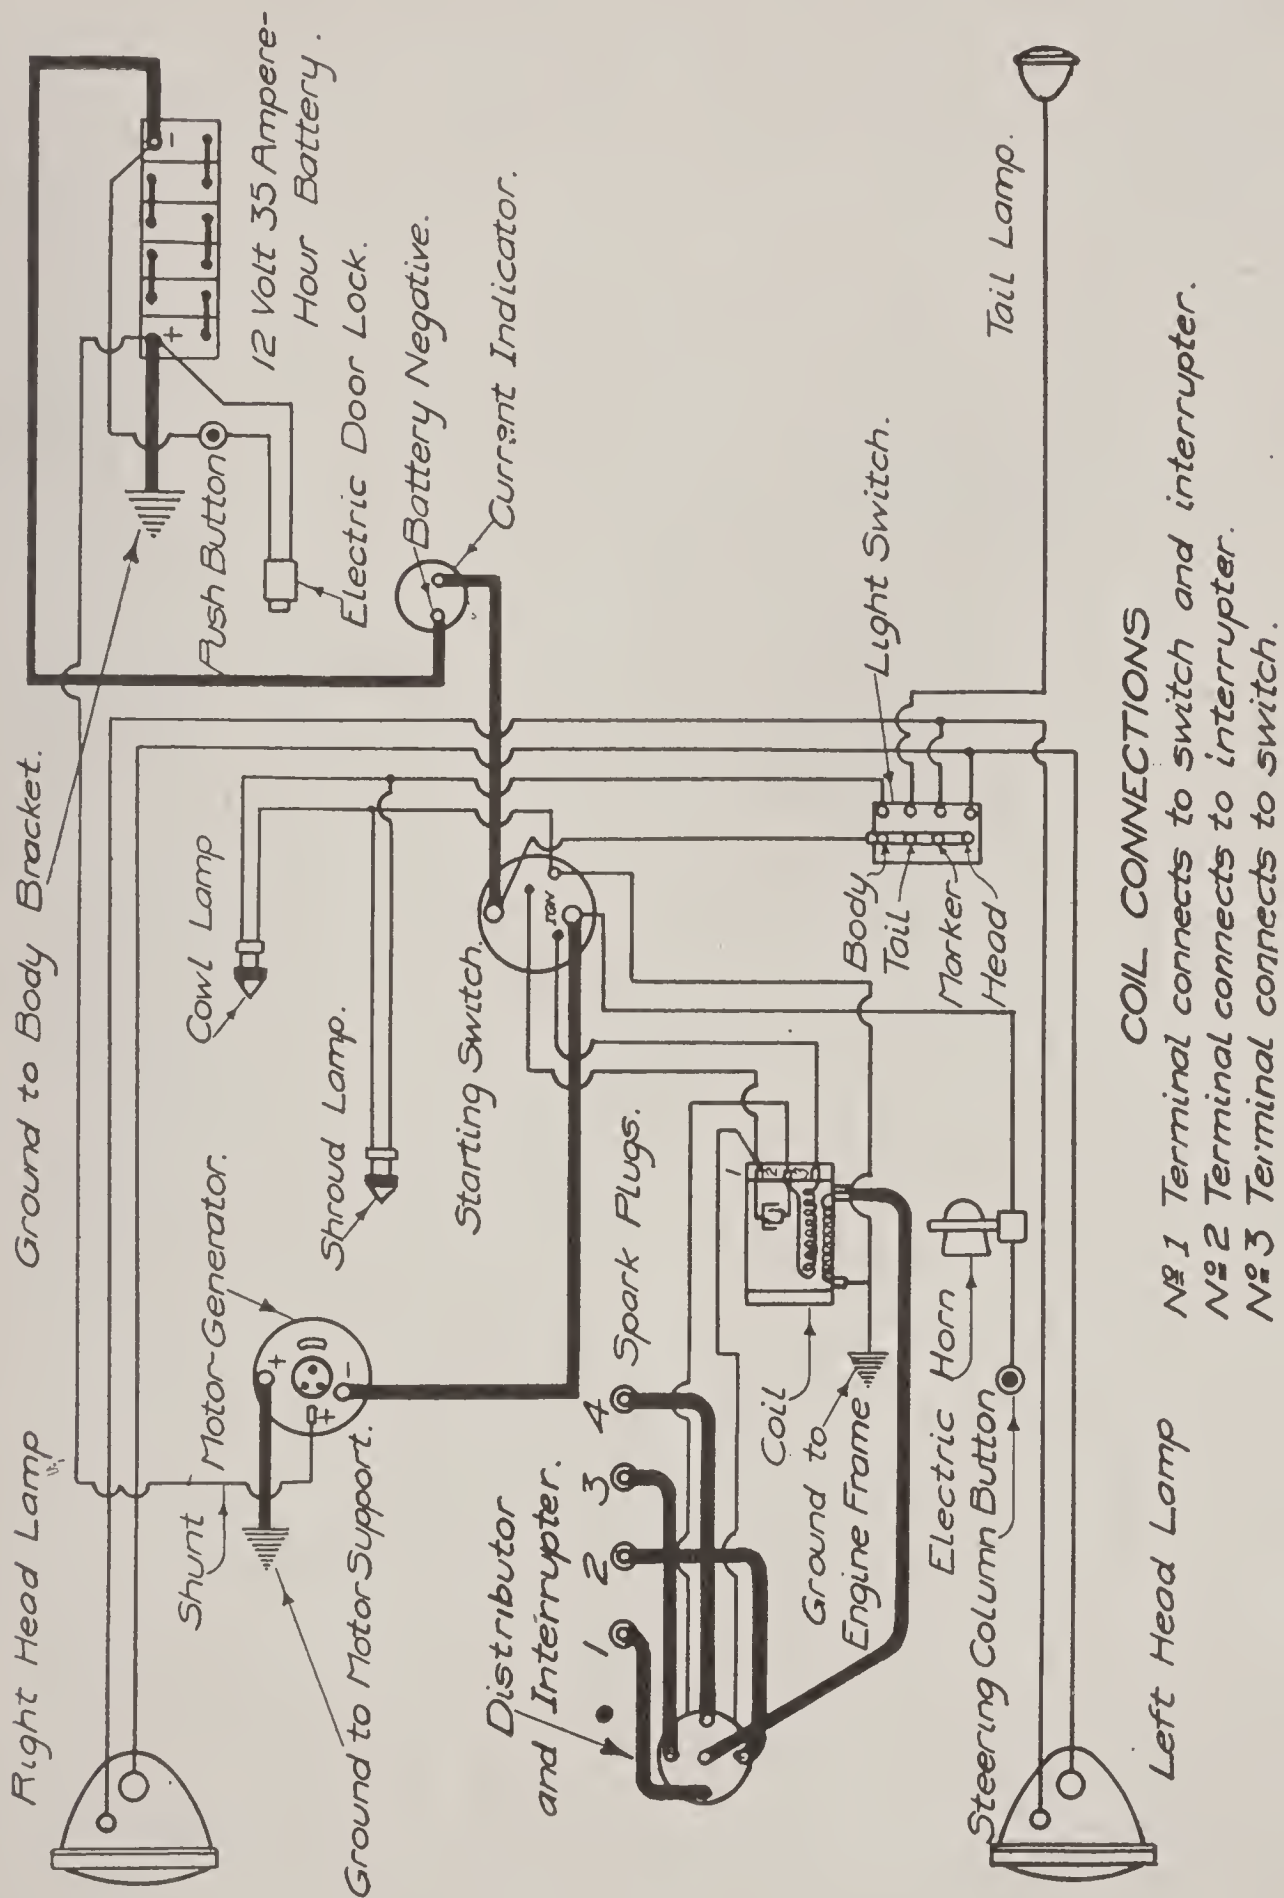
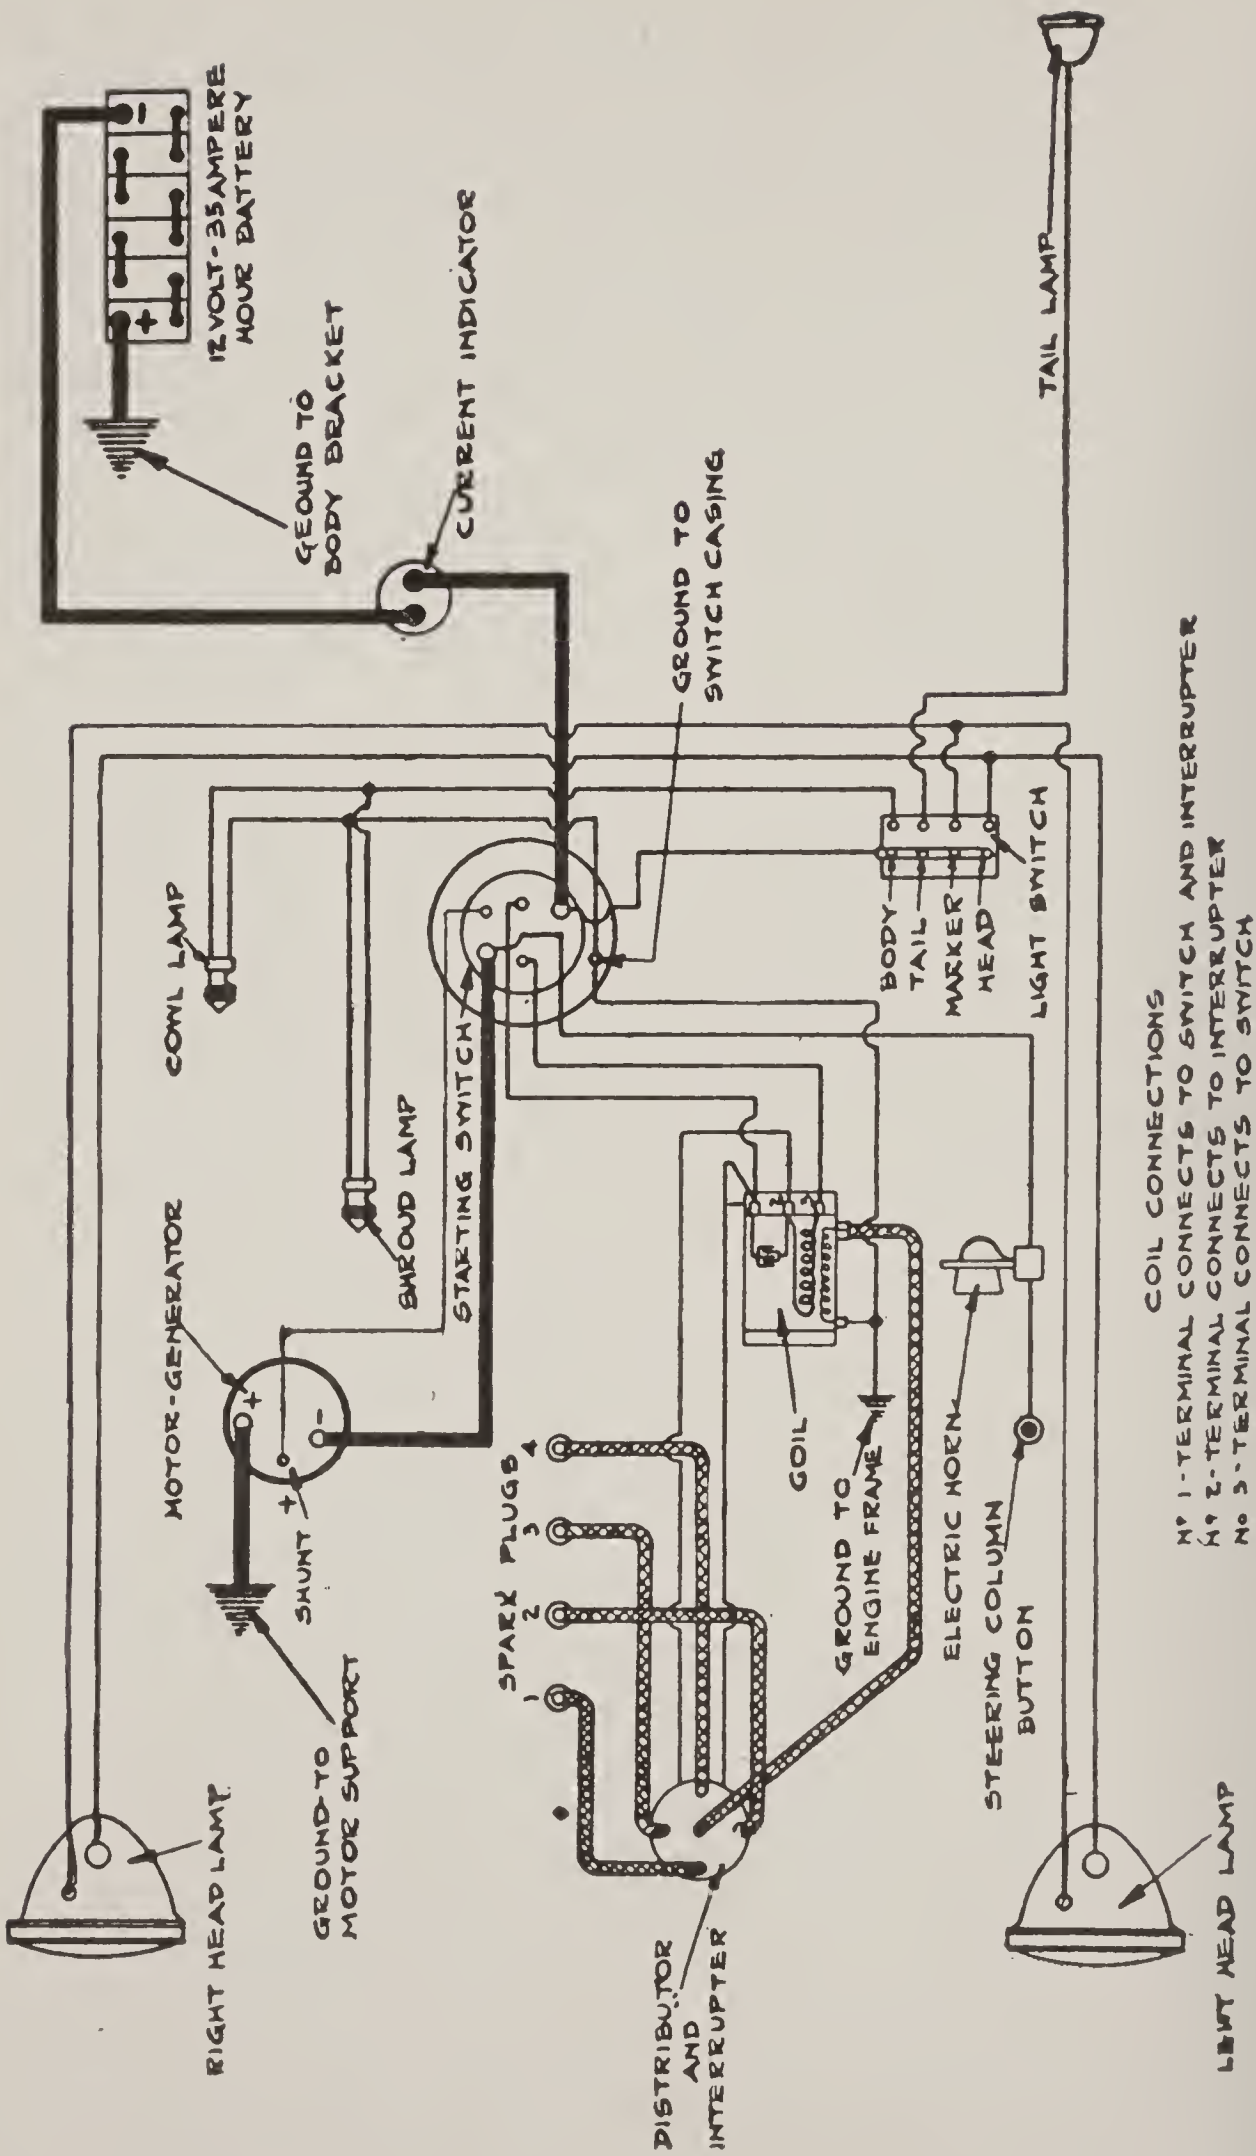

Fig. 232. Bijur System as Installed on Earlier Models of Scripps-Booth Cars
Fig. 233. Bijur System as Installed on Later Models of Scripps-Booth Cars
* Earlier models like Fig. 232 used a two-way switch.
drive) at a car speed of less than 10 miles per hour. Failure to indicate a charge at speeds higher than this is a sign that the generator belt is too loose or that the generator itself is inoperative. To determine this, remove No. 10 black wire, Fig. 232, connected to No. 6 post on the terminal block, which goes into the aluminum box above it. Connect a voltmeter between this wire and the chassis and run the engine at a speed corresponding to a travel of 15 miles per hour on high gear. The voltmeter should indicate 7.3 to 7.4 volts. Instructions regarding brushes, commutator, and tests of armature- and field-winding circuits with the aid of testing lamp as given in connection with the Auto-Lite system apply to determine the nature of the fault in the generator. A special disconnecting plug is incorporated in the regulator box on top of the generator. This plug has two flat parallel faces and should never rest in its receptacle so that these flat faces stand in a vertical position, but should be pushed in and turned in either direction past its central position until it locks. When making tests for generator faults see that this plug is in the proper position to close the generator circuit.
If necessity requires the operation of the car with the battery disconnected, disconnect the wires from the generator at the machine, as otherwise it is liable to injury. On the earlier Scripps-Booth models, Fig. 232, the engine should not be used as a brake in running down hill except in emergencies, but on later models, Fig. 233, this may be done without injury to the dynamotor by throwing the switch to the *off* position. By referring to the wiring diagram it will be noted that the shroud-lamp and cowl-lamp bulbs